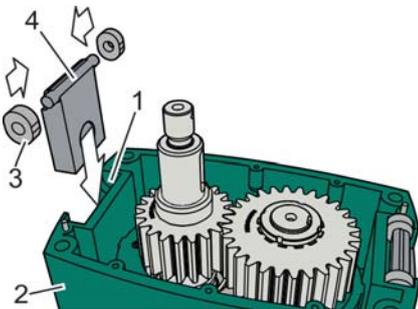

Fig. 141: Installing the transport eye, example
- 21. ▶ Slide the pivot bearing (Fig. 141/3) onto the journals of the transport eyes (Fig. 141/4).
- 22. ▶ Insert the transport eye (Fig. 141/4) in the correct position on both sides, with the pivot bearings (Fig. 141/3) into the bearing pockets (Fig. 141/1) of the gearbox housing (Fig. 141/2).